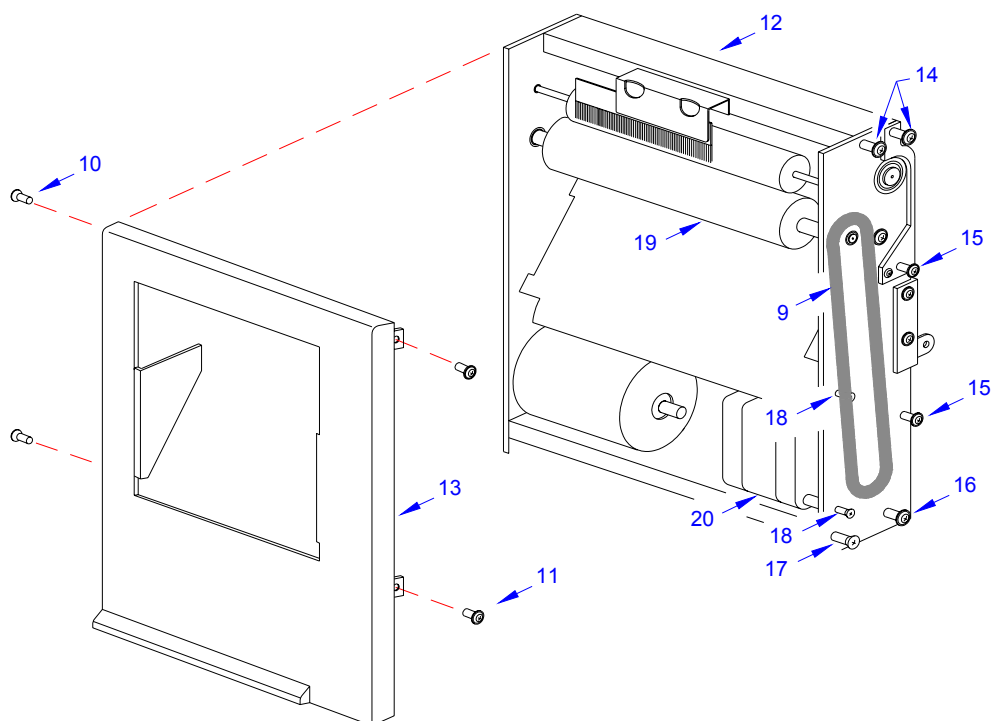

Figure 7-23b, Cutter Belt Replacement
- 8 Prepare to replace o-ring belt (9, Figure 7-23b).
- 9 Remove two screws (10) and two screws (11) from left and right sides of cutter frame (12).
- 10 Lift cutter cover (13) away from cutter frame (12).
- 11 Loosen screws (14), (15), (16), (17), and (18) located on the right side of cutter frame (12) sufficiently to manipulate the right end of feed roller (19) free.
- 12 Remove worn o-ring belt (9) from feed roller (19) and stepper motor (20).
- 13 Apply replacement o-ring belt (9) to feed roller (19) and stepper motor (20).
- 14 Insert right end of feed roller (19) into cutter frame (12) and tighten screws (18), (17), (16), (15), and (14).
- 15 Apply cutter cover (13) to cutter frame (12) and secure with two screws (11) and (10) to the right and left sides respectively.